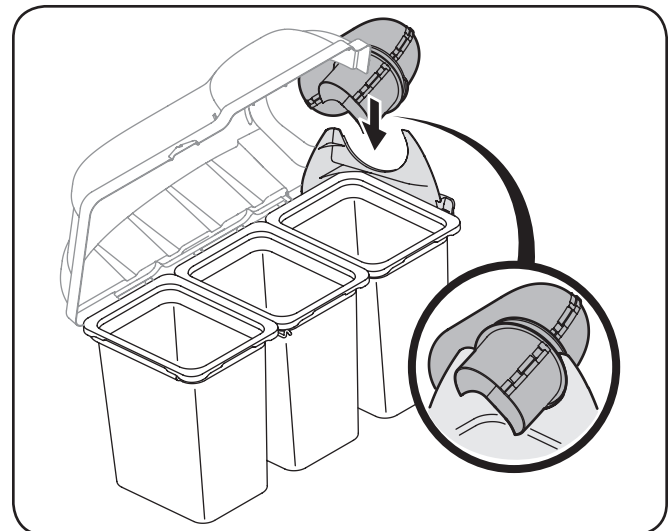

Figure 4-25
9. With the bagger cover open, install the upper chute over the chute adapter, and rest the top so that the chute support sits in the upper chute groove. See Fig. 4-25.